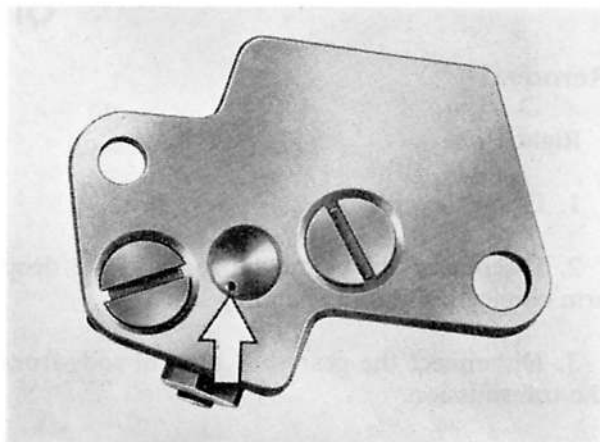

Fig. A.19. Rear view of timing chain tensioner. The arrow indicates the oil feed hole to the tensioner body
2. Secure the body to the plate and check that the screw heads are below the plate face. Make sure the oil feed hole (Fig. A.19) is free from obstruction.